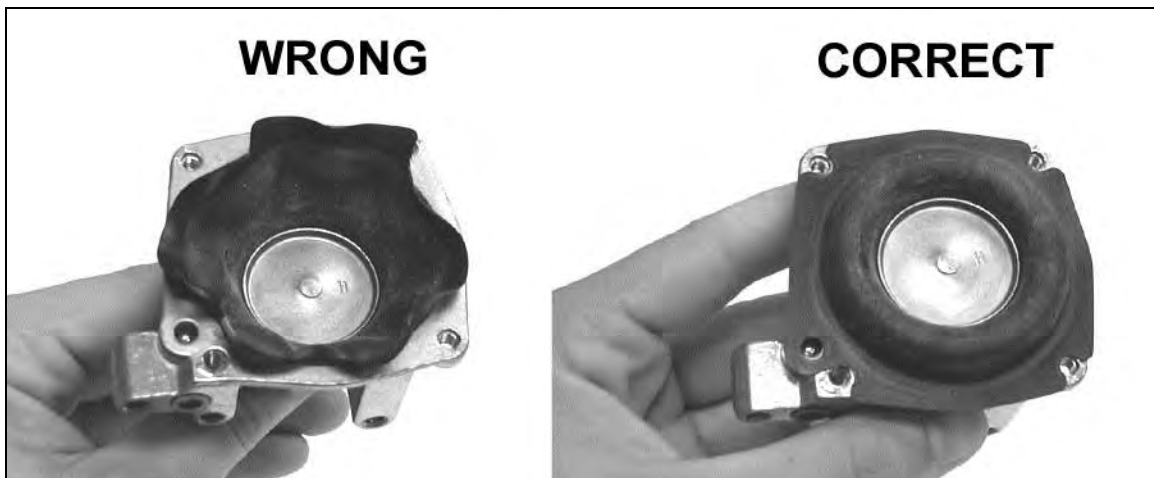

Figure 19
- TIP:** To make reassembling the diaphragm easier, push the diaphragm arm into the housing and form the diaphragm into a “mushroom” shape (Figure 19). Then position the diaphragm over the bolt holes and vacuum port. Hold the diaphragm in that position with your fingers while inserting the spring, cover, and bolts to avoid disturbing the position of the diaphragm.